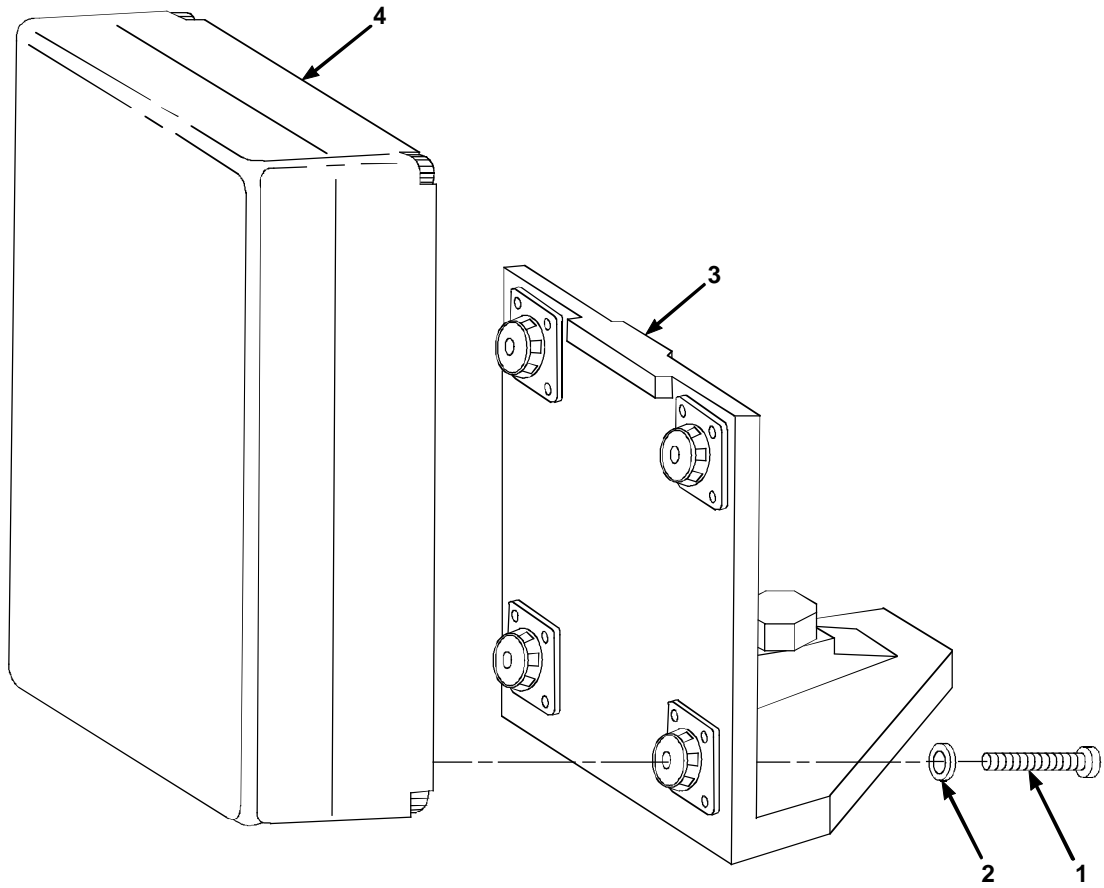
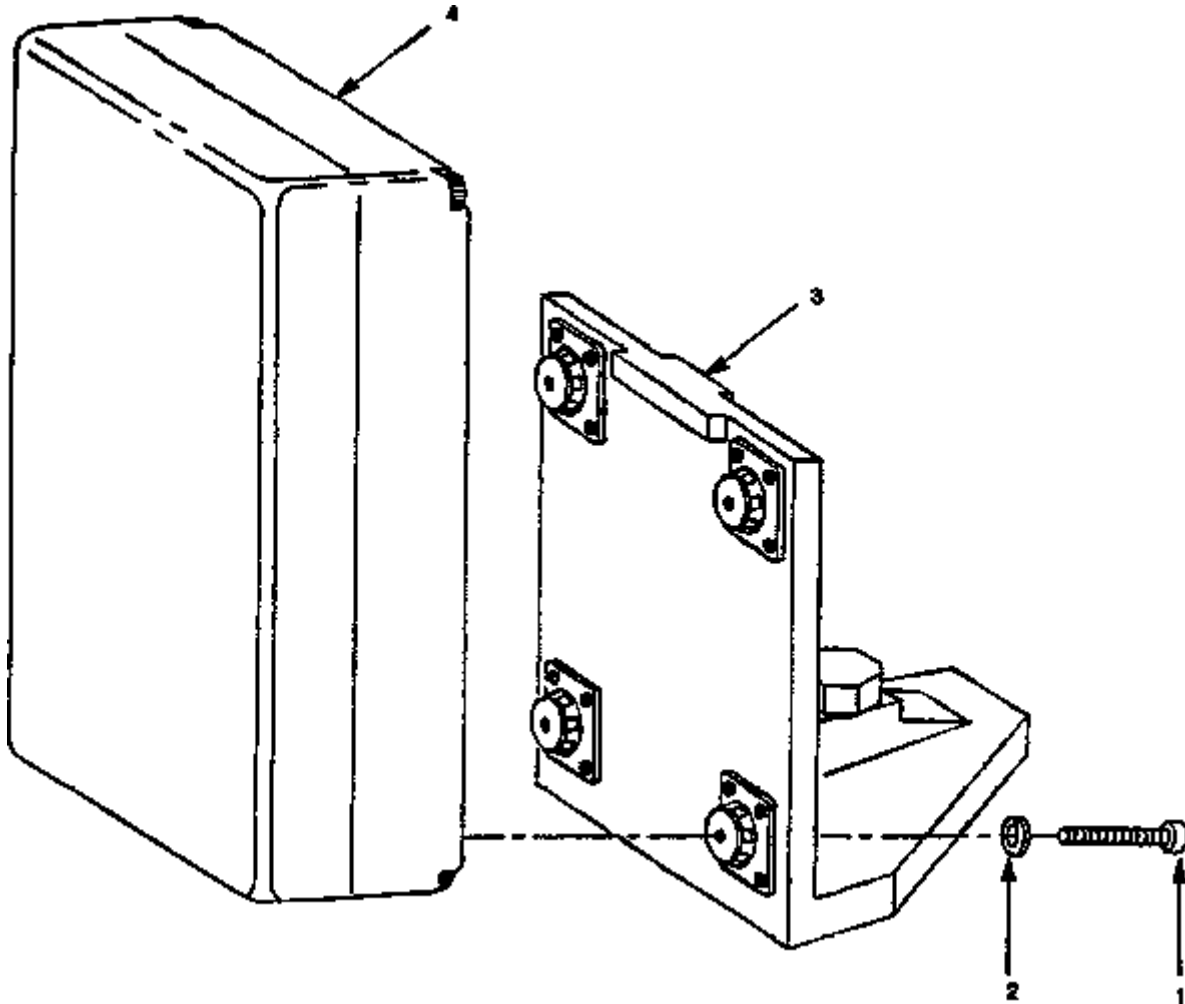

Figure 3-11. Bracket Assembly, P/N 1297003
Figure 3-12. Antenna Transceiver & Bracket Assy, P/N RD6709351-0, Removal and Installation
**3.5.5. Disassembly.** Refer to Figure 3-11. Disassemble Bracket Assembly as follows:
- a. Remove four screws (6), four lockwashers (7), and four flat washers (8) on each of the four resilient mounts (5) from machined bracket (4). Discard lockwashers (7).
- b. Unscrew and remove externally-relieved bolt (1), lockwashers (2) and round plain nut (3) from machined bracket (4).
**3.5.6. Assembly.** Refer to Figure 3-11. Assemble Bracket Assembly as follows:
- a. Insert lockwasher (3) and round plain nut (2) on externally relieved bolt (1).
- b. Screw externally relieved bolt (1) into machined bracket (4).
- c. Position four resilient mounts (5) on machined bracket (4) and secure each with four flat washer's (8), four new lockwashers (7), and 4 screws (6). Torque machine screws (6) to 9.8-10.8 in. lb (1.11-1.22 N.m).
**3.5.7. Removal of Bracket from Transceiver Assy.** Refer to Figure 3-12.
- a. Remove four hex socket screws (1 ) and four lockwashers (2).
- b. Remove Bracket Assy (3) from Transceiver Assy (4).
**3.5.8. Installation of Bracket from Transceiver Assy.** Refer to Figure 3-12.
- a. Attach Bracket Assy (3) and Transceiver Assy (4).
- a. Install four hex socket screws (1) and four lockwashers (2).
**3.6.2. Removal.** Refer to Figure 3-12. Remove Transceiver Assy as follows:
- a. Remove four screws (1 ) and four lockwashers (2) using 5-mm hex key wrench.
- b. Remove Transceiver Assy (4) from Bracket Assy (3).
**3.6.3. Installation.** Refer to Figure 3-12. Install Transceiver Assy to Bracket Assy as follows:
- a. Attach Transceiver Assy (4) to Bracket Assy (3).
- a. Install four screws (1 ) and four lockwashers (2) using 5-mm hex key wrench.